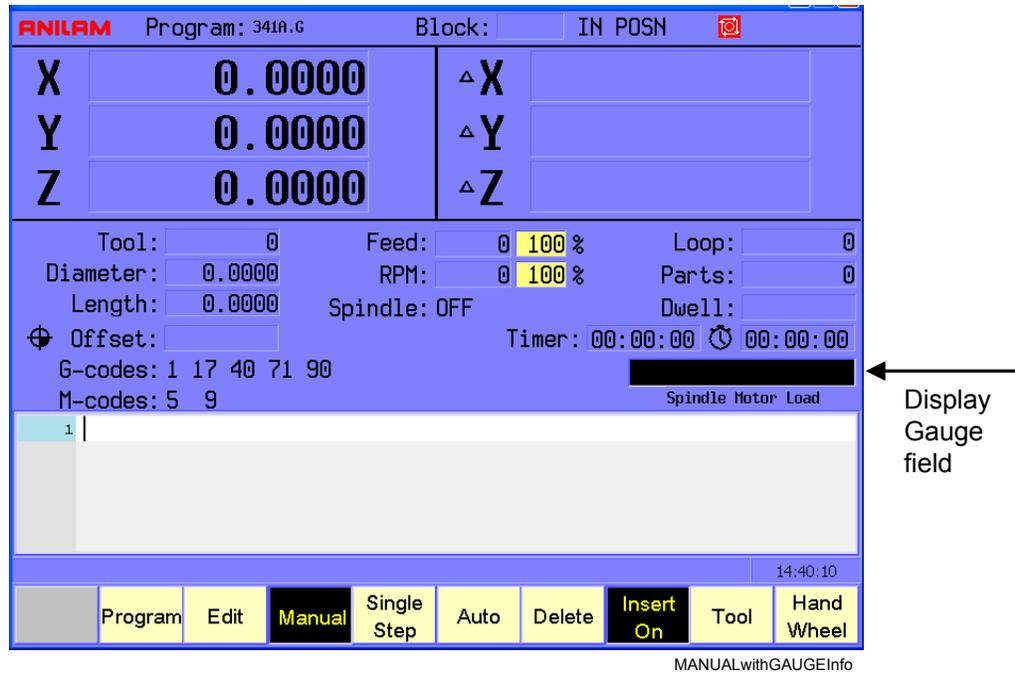

Figure 3-5, Manual Screen with Gauge Display
- Press the **Display Gauge (F1)** soft key to display the Gauge information on the Manual screen (refer to Figure 3-5, Manual Screen with Gauge Display). Refer to **Table 3-1**.